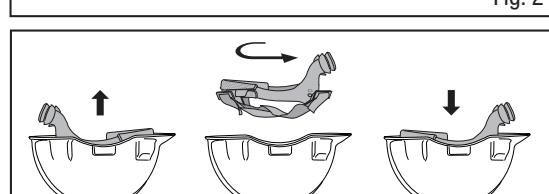

Fig. 3
- Assure to re-configure the head suspension in the hardhat to face the brim backwards as is shown in Fig.3.